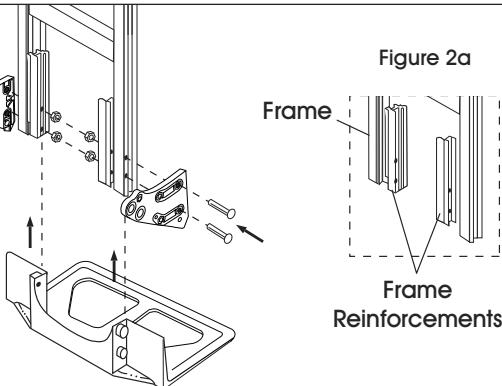
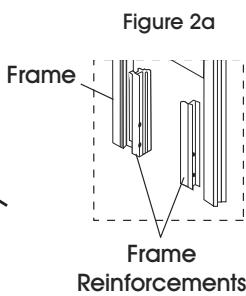

Figure 2
Figure 2a
1. Position frame reinforcements against bottom frame rail. (See Figure 2a) Slide nose plate into channel on frame reinforcement, keeping bolt holes aligned. (See Figure 2)
2. Align axle support with outside rail of frame. (See Figure 2)
3. Insert four 8 mm bolts through the axle supports, frame, frame reinforcements and nose plate. Secure with locknuts but DO NOT tighten. (See Figure 2)